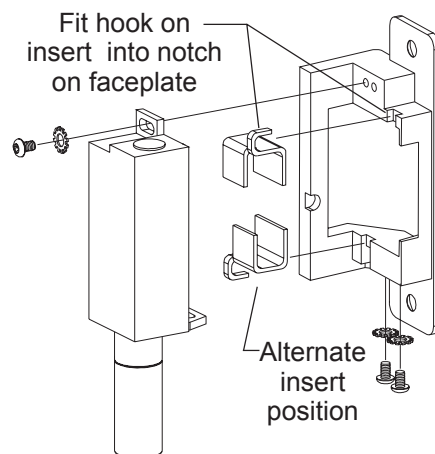

Figure 2
4. Install insert for auxiliary bolt operation (Figure 2).